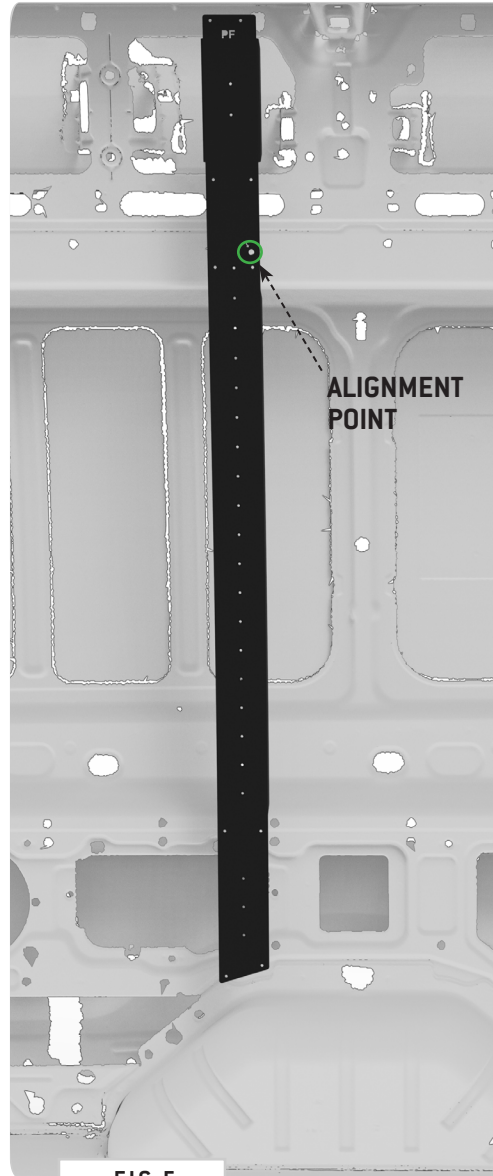

FIG 5
3.1 Align Driver Side Front Bracket: Align the **Driver Side Front Bracket** to the **Alignment Point** as shown in FIG 5. There should also be a **Body Seam** that you can use as a visual guide.